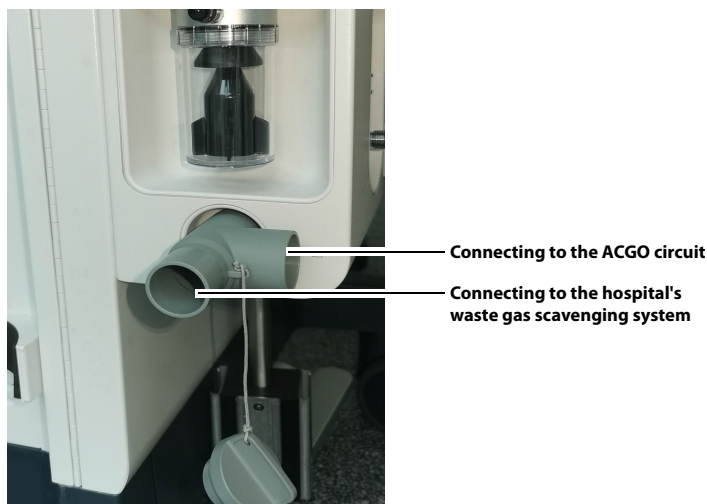
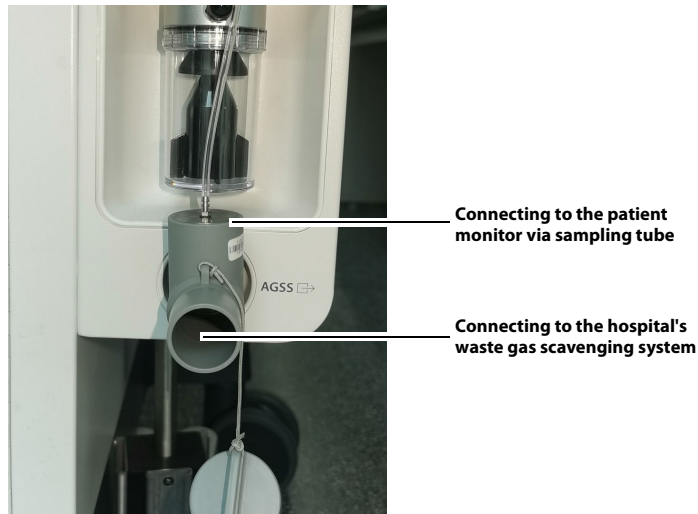

Figure 3-9 Passive AGSS (connecting to the ACGO circuit)
Figure 3-10 Passive AGSS (connecting to the patient monitor)
- When both the patient monitor and ACGO circuit need to scavenge the gas to the AGSS, use two adapters (one adapter as Figure 3-9 and one adapter as Figure 3-10) as shown below.